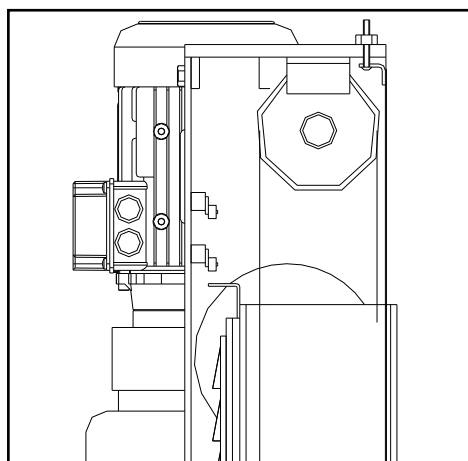

Fig. 13
- ◆ If the lift reaches to the maximum height, the up limit switch will stop the lifting. (Fig.13)
- ◆ If the moving part exceed its travel distance, on the upper part of the command post there is two limit switches connected in series and are usually set working by the “actuator” (Fig. 13) on the command side carriage. If the first limit switch did not work, the second one would trip after 3sec of carriage run.